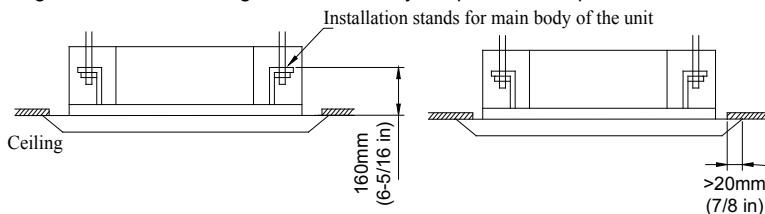

Fig. 3
- (1). The primary step for installing the indoor unit.
- (2). Use cardboard installation template.
- (3). Place unit in installation location. (Refer to Fig. 3)
- (4). Check if the unit is level.